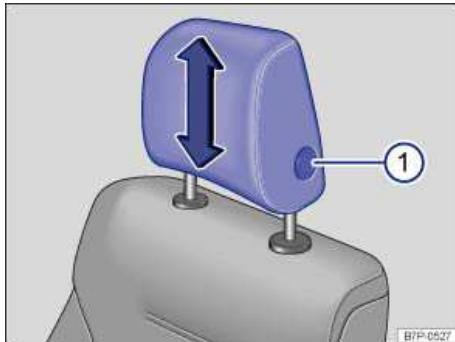
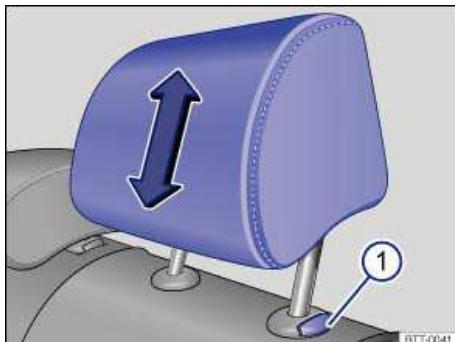

Fig. 45 Adjusting the front head restraints.
Fig. 46 Adjusting the rear head restraints.
- Push the head restraint up in the direction of the arrow or down when the button ⇒ fig. 45 \(1\) or ⇒ fig. 46 \(1\) is pressed ⇒ .